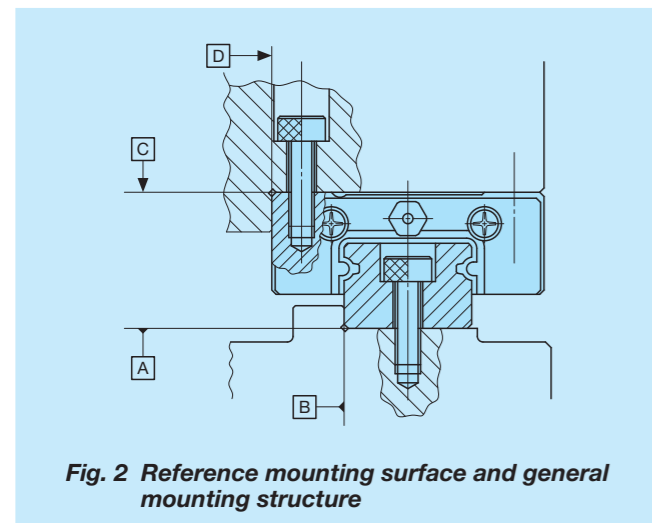

Fig. 2 Reference mounting surface and general mounting structure
To mount ML(F) and LWL(F) series, correctly fit the reference mounting surfaces B and D (D1 or D2) of the slide unit and track rail to the reference mounting surfaces of the table and the bed, and then fix them tightly. (See Fig.2)